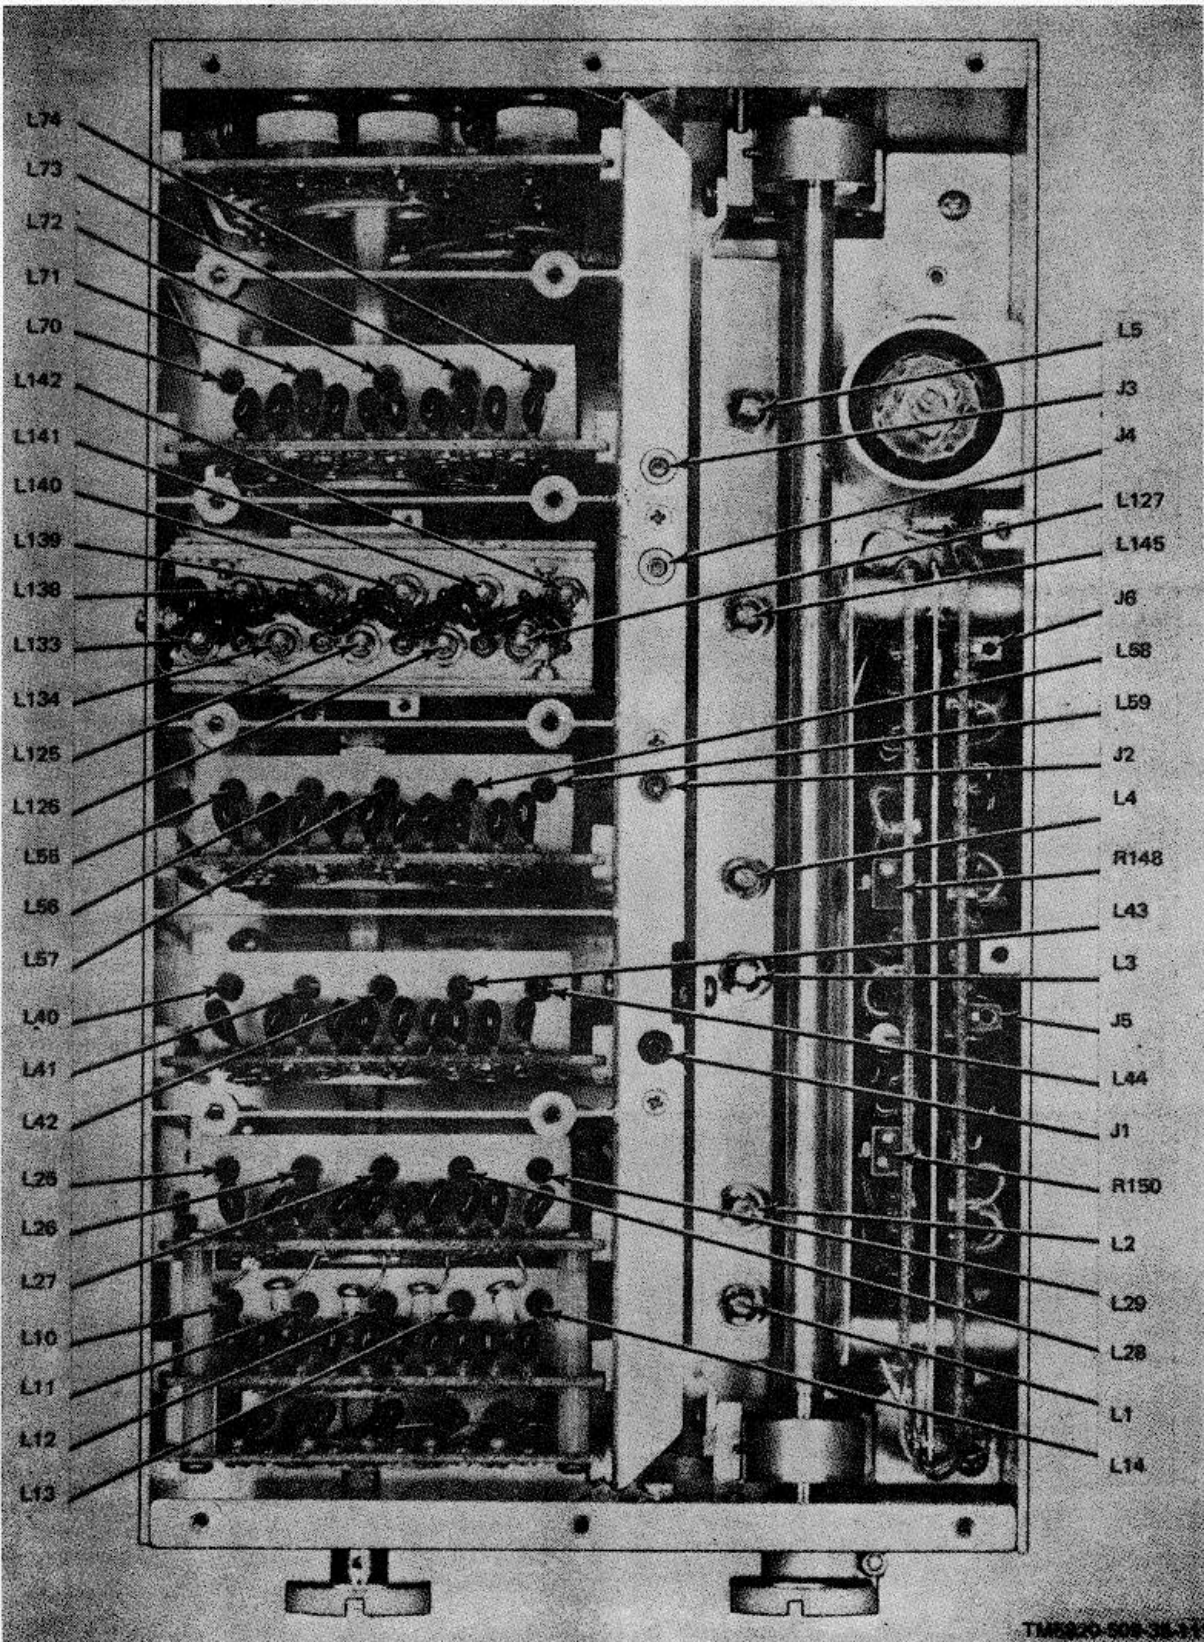
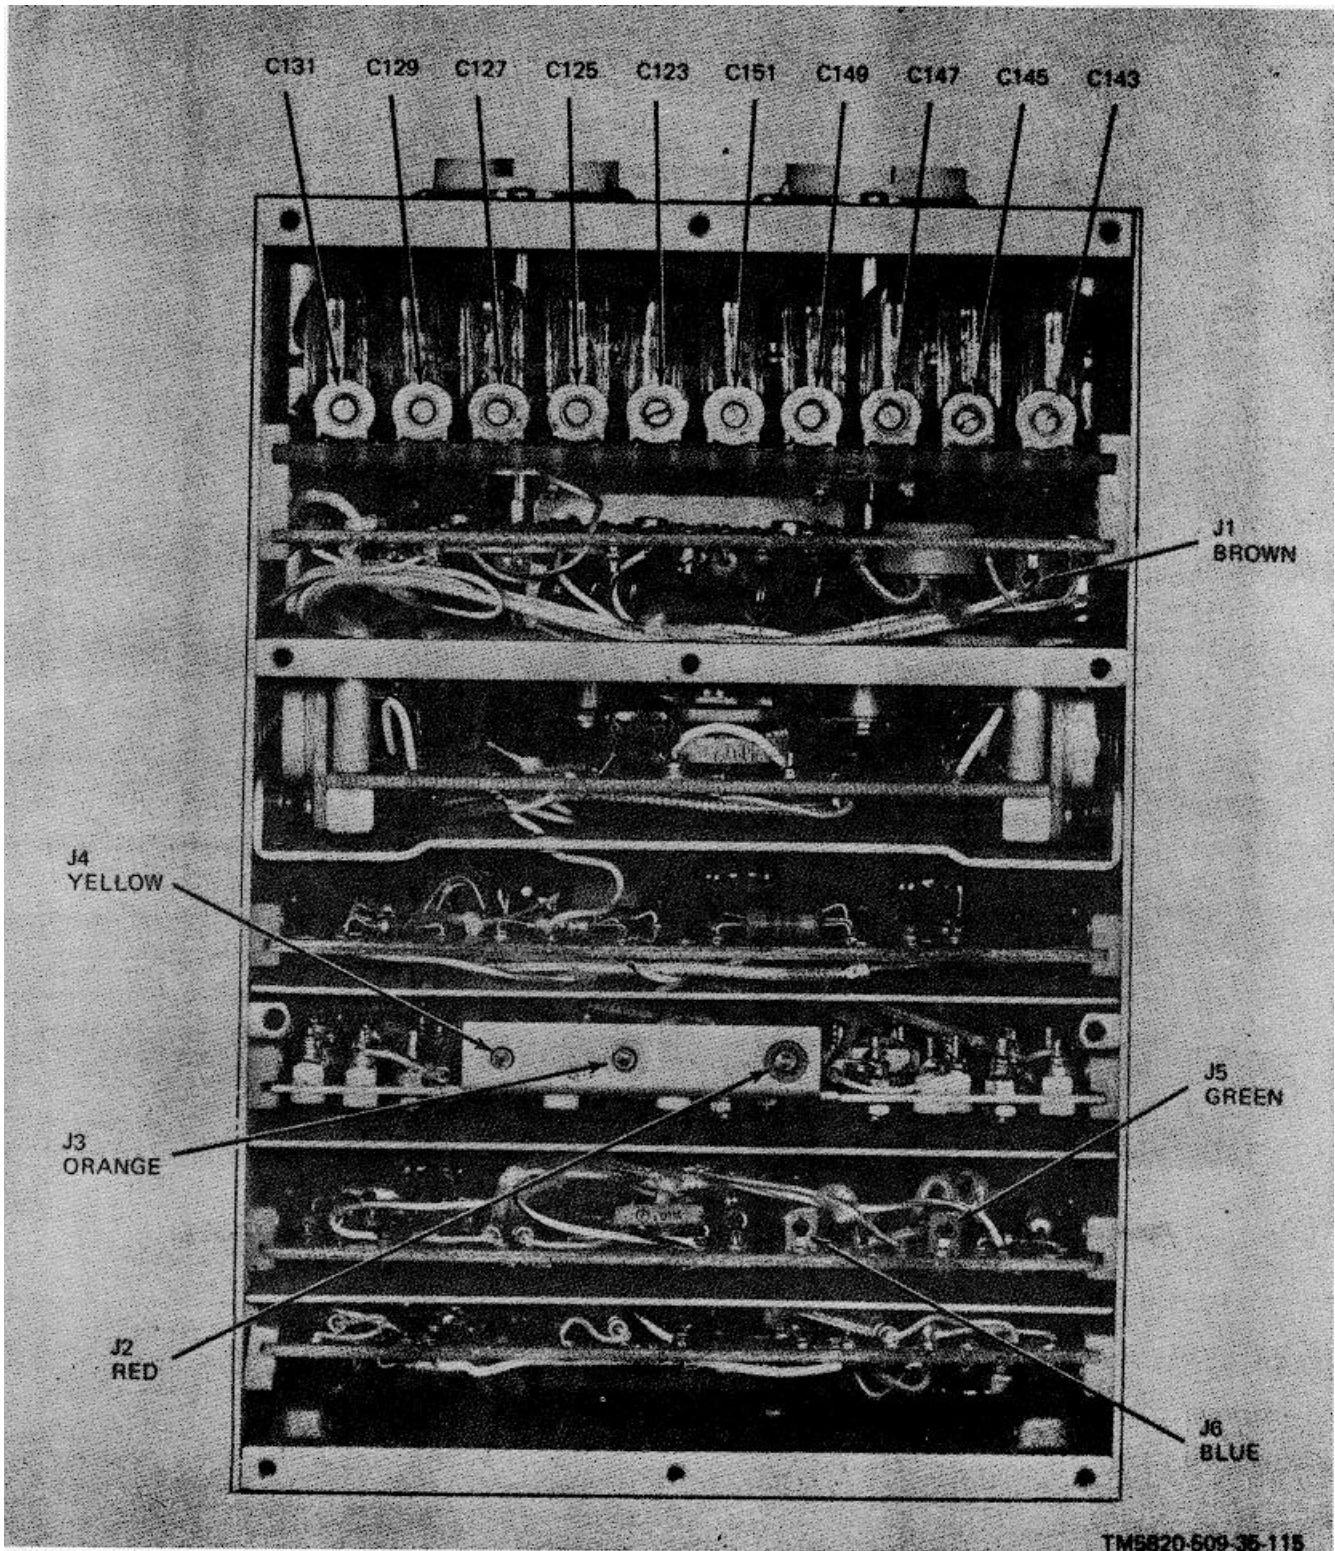

Figure 3-96. Signal Data Translator CV-1377A-PRC-47(A8A3), Top View, Location of Test Points and Adjustments.
Figure 3-100. Oscillator Control C-4311-PRC-47 (A8A7), Top View, Location of Test Points and Adjustments.
a. *Test Procedures.* Measure the clearance between halves of the slug rack coupler (fig. 3-96) with a feeler gage. Clearance must be 0.002- to 0.020-inches. If not, adjust in accordance with step b.
(1) Remove the RT-671/PRC-47 from its case using the procedures detailed in paragraph 3-11.
(2) Connect the primary power source to the POWER connector on the front panel of RT-671 //PRC-47.
(3) Connect the dc test probe of Multimeter ME-26A/U alternately to test jacks A7J5 and A7J6 of Oscillator Control C-311/PRC 47 (fig. 3-100).
(4) Set the front panel controls of TR-671/PRC-47 as follows: